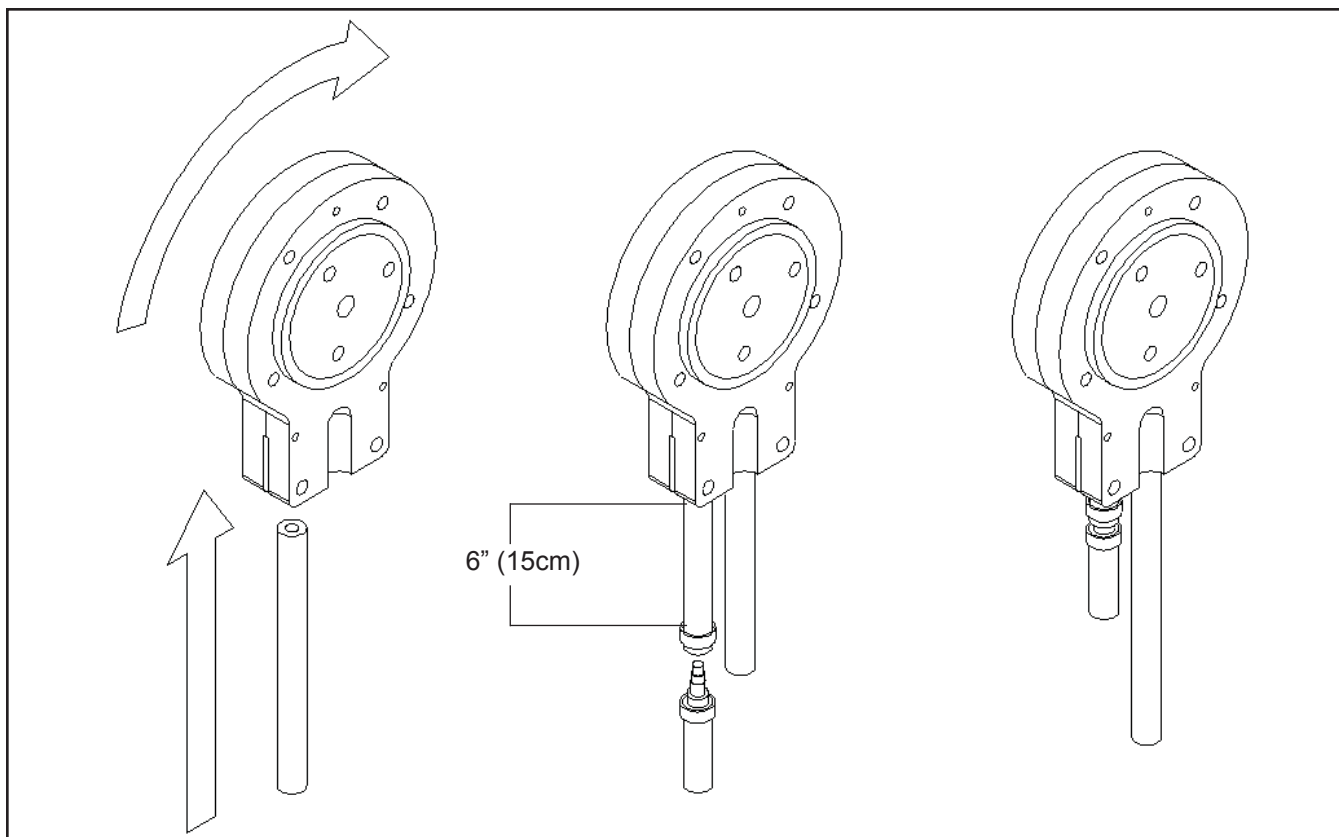

Figure 2-2 Mix Hose Installation
2. Feed one end of the mix pump hose into the entering or pickup hose side (left) of black cover (Fig 2-2).